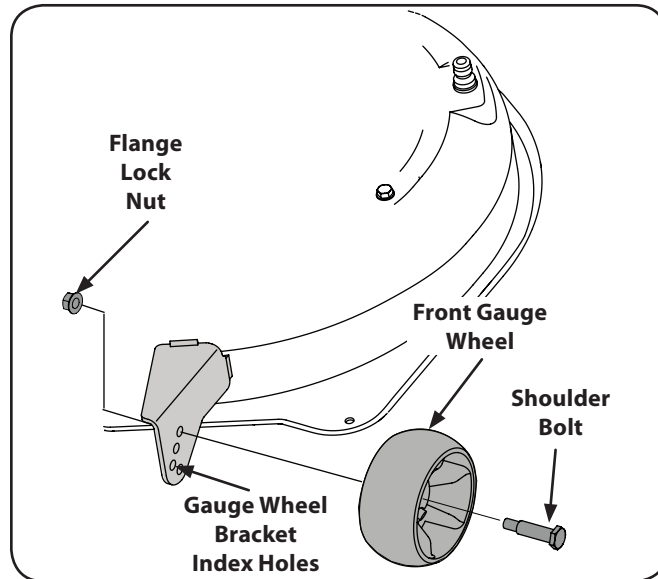

Figure 6-7
- Remove the flange lock nut and shoulder bolt securing one of the front ball wheels to the front index bracket. Reposition the ball wheel to align with the one of five index holes that places the wheel $\frac{1}{4}$ " to $\frac{1}{2}$ " above the ground. Secure the ball wheel to the index bracket with the shoulder bolt and flange lock nut. Note the index hole used and secure the other ball wheel in the same position. See Fig. 6-7.